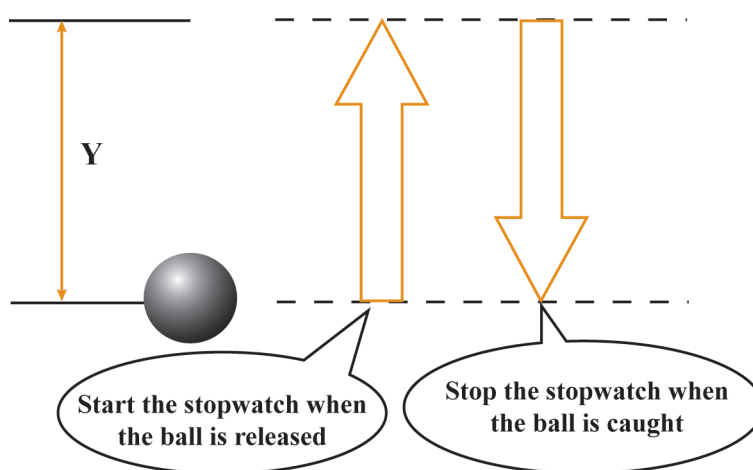

Figure 8
- 2. Have a second person start the stopwatch as the ball is released, and stop the stopwatch as soon as the ball is caught. See Figure 8. Enter the time in Data Table 2.